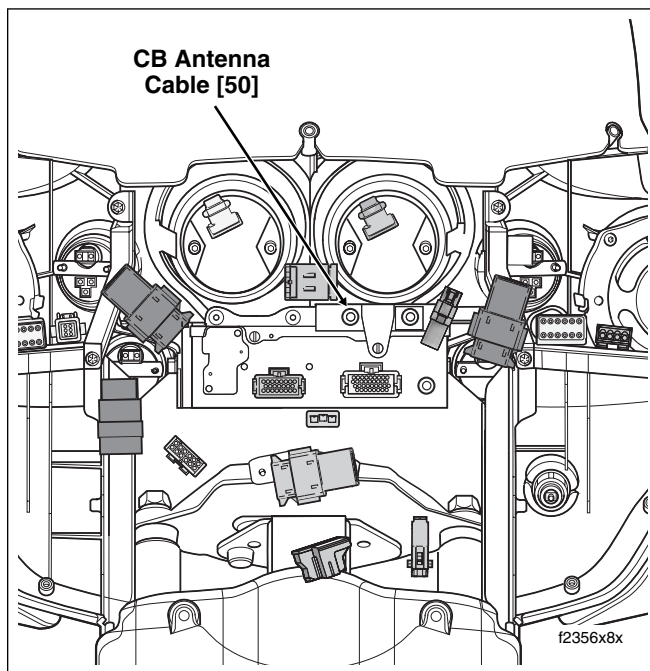

Figure 8-193. Remove Outer Fairing (FLHTCU)
5. Locate CB antenna cable connector [50] at back of CB module (right side). Rotate knurled ring in a counter-clockwise direction to disconnect. See Figure 8-193. Carefully cut cable where it exits audio harness conduit.
1. At front of inner fairing, rotate knurled ring to connect CB antenna cable connector [50] at back of CB module (right side). See Figure 8-193.